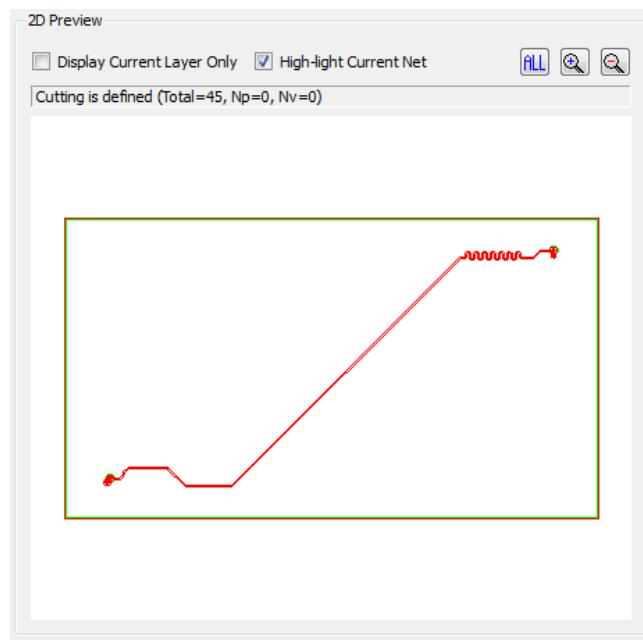

Fig. 2-10 Top View of the Structure
1. What is the red box shown in Fig. 2-10?